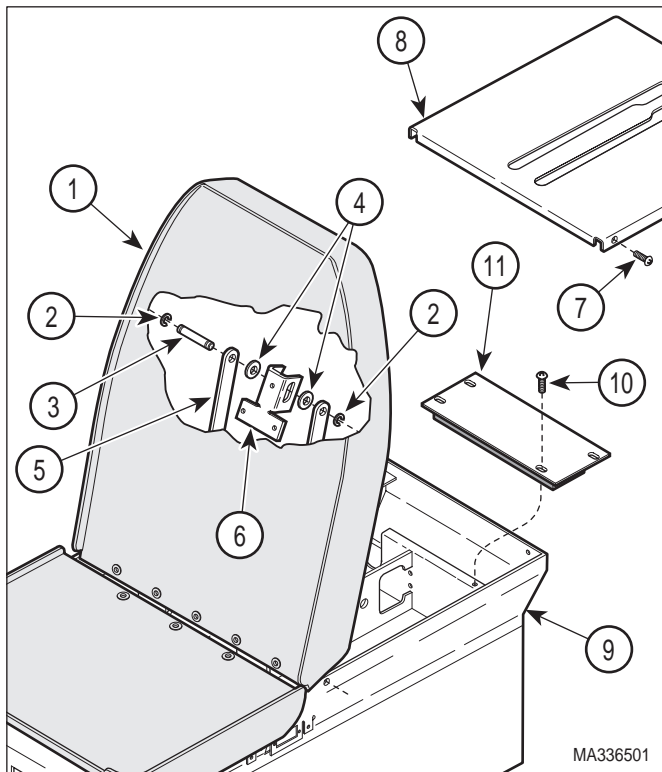
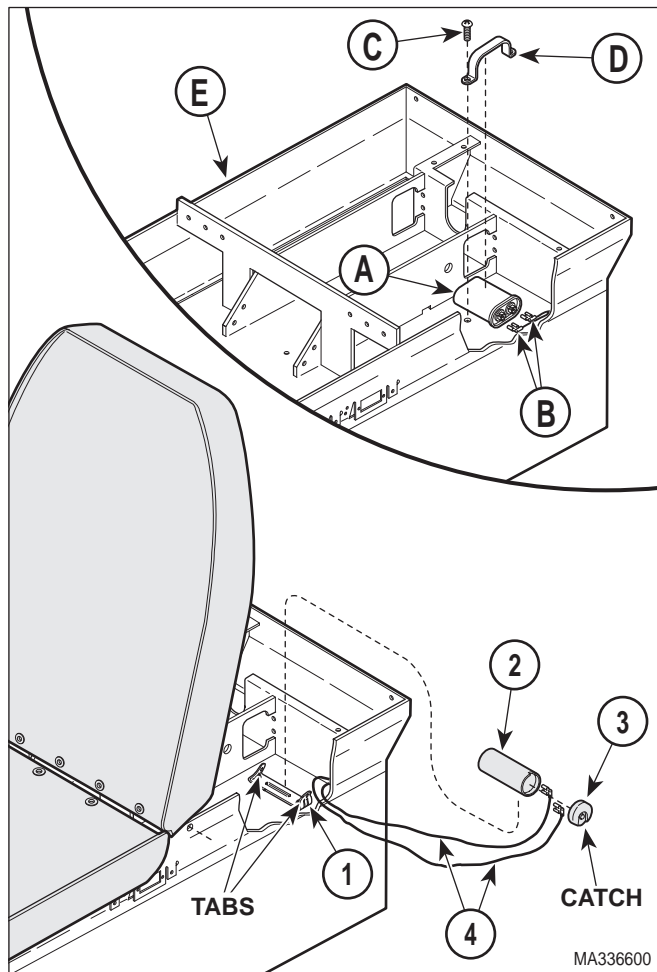

Figure 4-12. Capacitor Access
Figure 4-13. Back Capacitor Removal / Installation
- (3) While supporting back section (1, Figure 4-12), remove two e-rings (2), clevis pin (3), two bearing washers (4), and link bars (5) from back pivot bracket (6).
- (4) Carefully fold the back section (1) over onto the seat section.
- (5) Remove four screws (7) and back cover (8) from upper wrap weldment (9).
Figure 4-13 shows back capacitor mounting position on old style units. The same procedure applies to new style units with capacitor mounted inside motor housing.
- (7) To remove 100 VAC or 120 VAC back capacitor:
- a. Using a screwdriver, pry tab of mounting bracket (1, Figure 4-13) outward and separate back capacitor (2) from mounting bracket.
- b. Remove capacitor cap (3) from back capacitor (2).
- a. Discharge back capacitor (A, Figure 4-13).
- b. Disconnect two wires (B) from terminals of back capacitor (A).
- c. Remove two screws (C), capacitor clamp (D), and back capacitor (A) from upper wrap weldment (E).
(1) Install 230 VAC back capacitor as follows:
- a. Install back capacitor (A, Figure 4-13) on upper wrap weldment (E) and secure with capacitor clamp (D) and two screws (C).
- b. Connect one wire (B) to each terminal group of back capacitor (A).
- (2) Install 100 VAC and 120 VAC back capacitor as follows:
- a. Connect one wire (4, Figure 4-13) to each terminal group of back capacitor (2).
- b. Install capacitor cap (3) on back capacitor (2).
- c. Position the bottom of back capacitor (2) on mounting bracket (1) and then push the top of the capacitor inward. Using a screwdriver, force the tab of the mounting bracket (1) down over the catch of the capacitor cap (3). Make sure back capacitor (2) is held firmly in place.
- (3) If necessary, install motor cover (11, Figure 4-12) and secure to upper wrap assembly (12) with four screws (10).